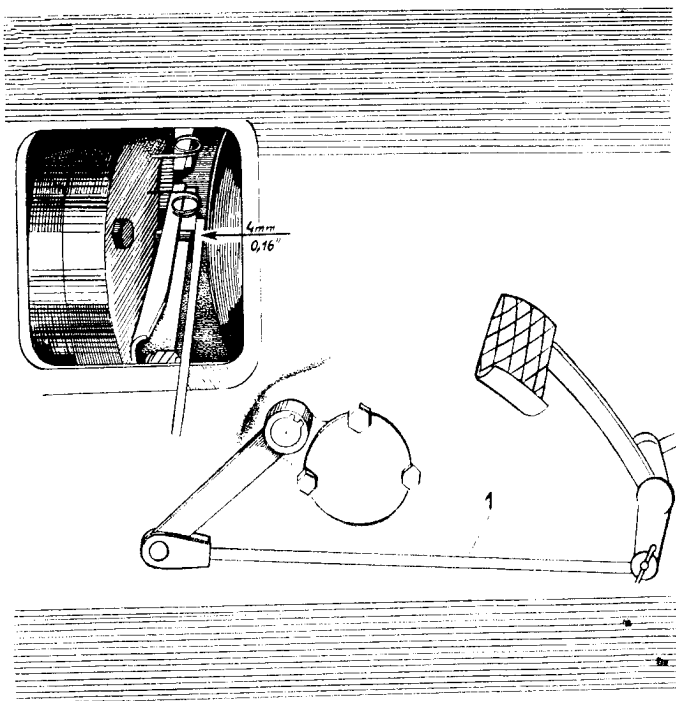

Fig. 27
The play between the disengaging bearing and the release levers of the travel clutch (Fig. 27) must be 4 mm (.16"). To find out and take-up the play proceed as follows:
1. Remove the lid (Fig. 27).
To increase the play, unscrew the tie rod (Fig. 27/1), to reduce the play, screw it in.